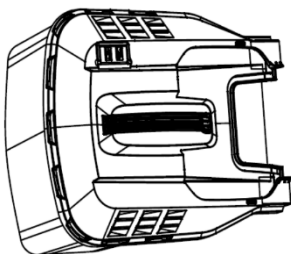
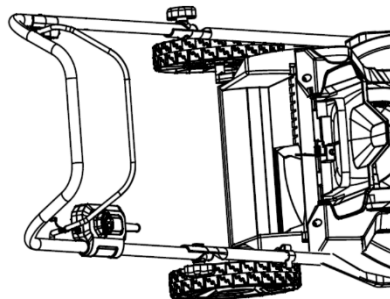
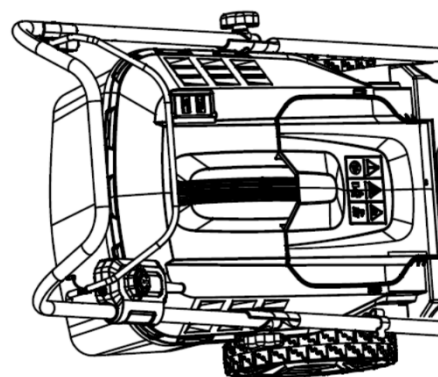

Fig.4A
Fig.4B
Fig.4C
1. To fit: Raise the rear cover and hitch the grass catcher on the rear of the mower. (Fig.4A/Fig.4B/Fig.4C)